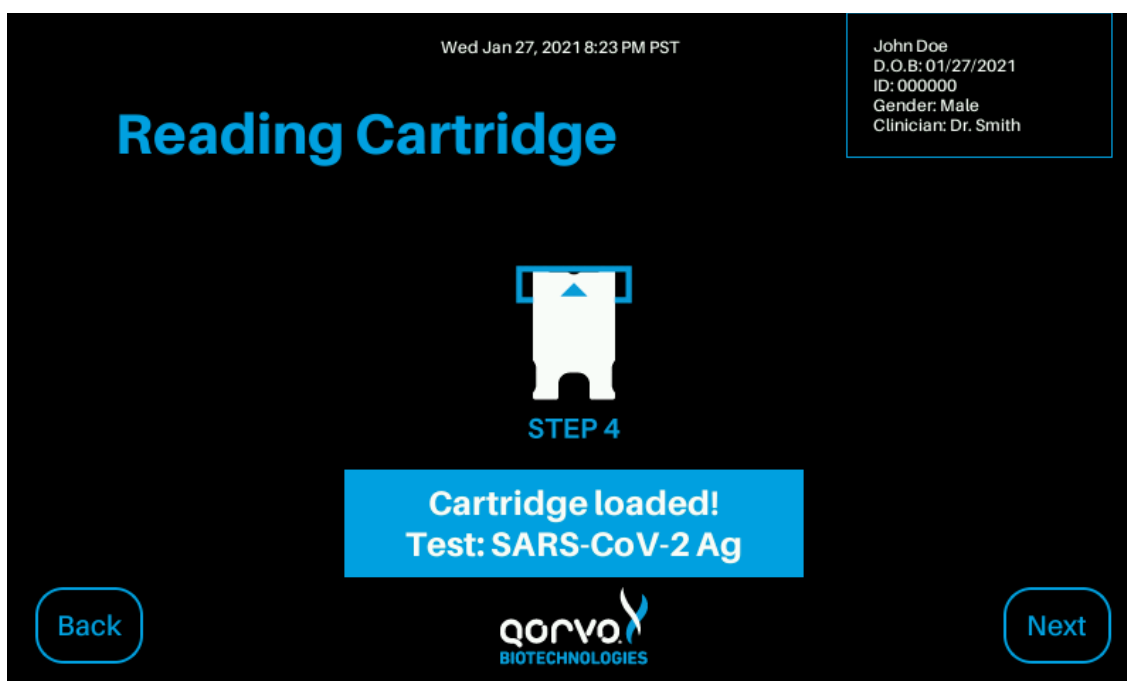

Figure 27
9. Each cartridge contains a radio-frequency identification (RFID) tag that communicates with the instrument as to the cartridge type. The RFID tag informs the instrument which assay to run and informs the user which sample types are compatible with the selected cartridge (Figure 27).
Note: The assay information in Figure 27 is an example only. Refer to Qorvo Omnia test cartridge Instructions for Use for assay-specific information.